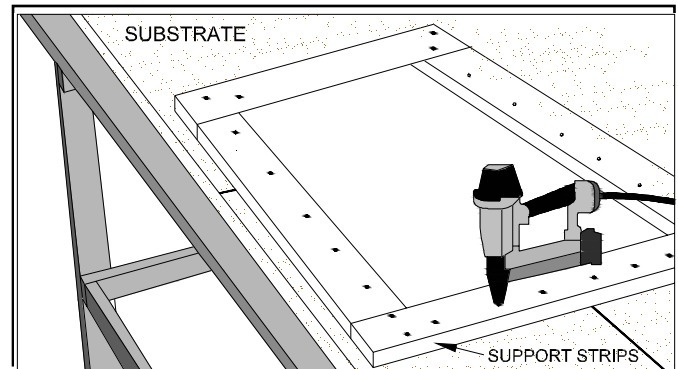

Figure 15A
- Place  $\frac{3}{4}$ " thick wood support strips around entire perimeter of backside of substrate around cutout area. (FIG. 15A)